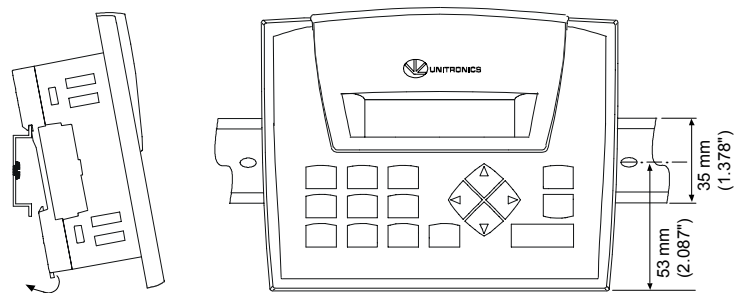

Figure 6. DIN-Rail Mounting
1. Snap the unit onto the DIN-rail as shown in Figure 6.